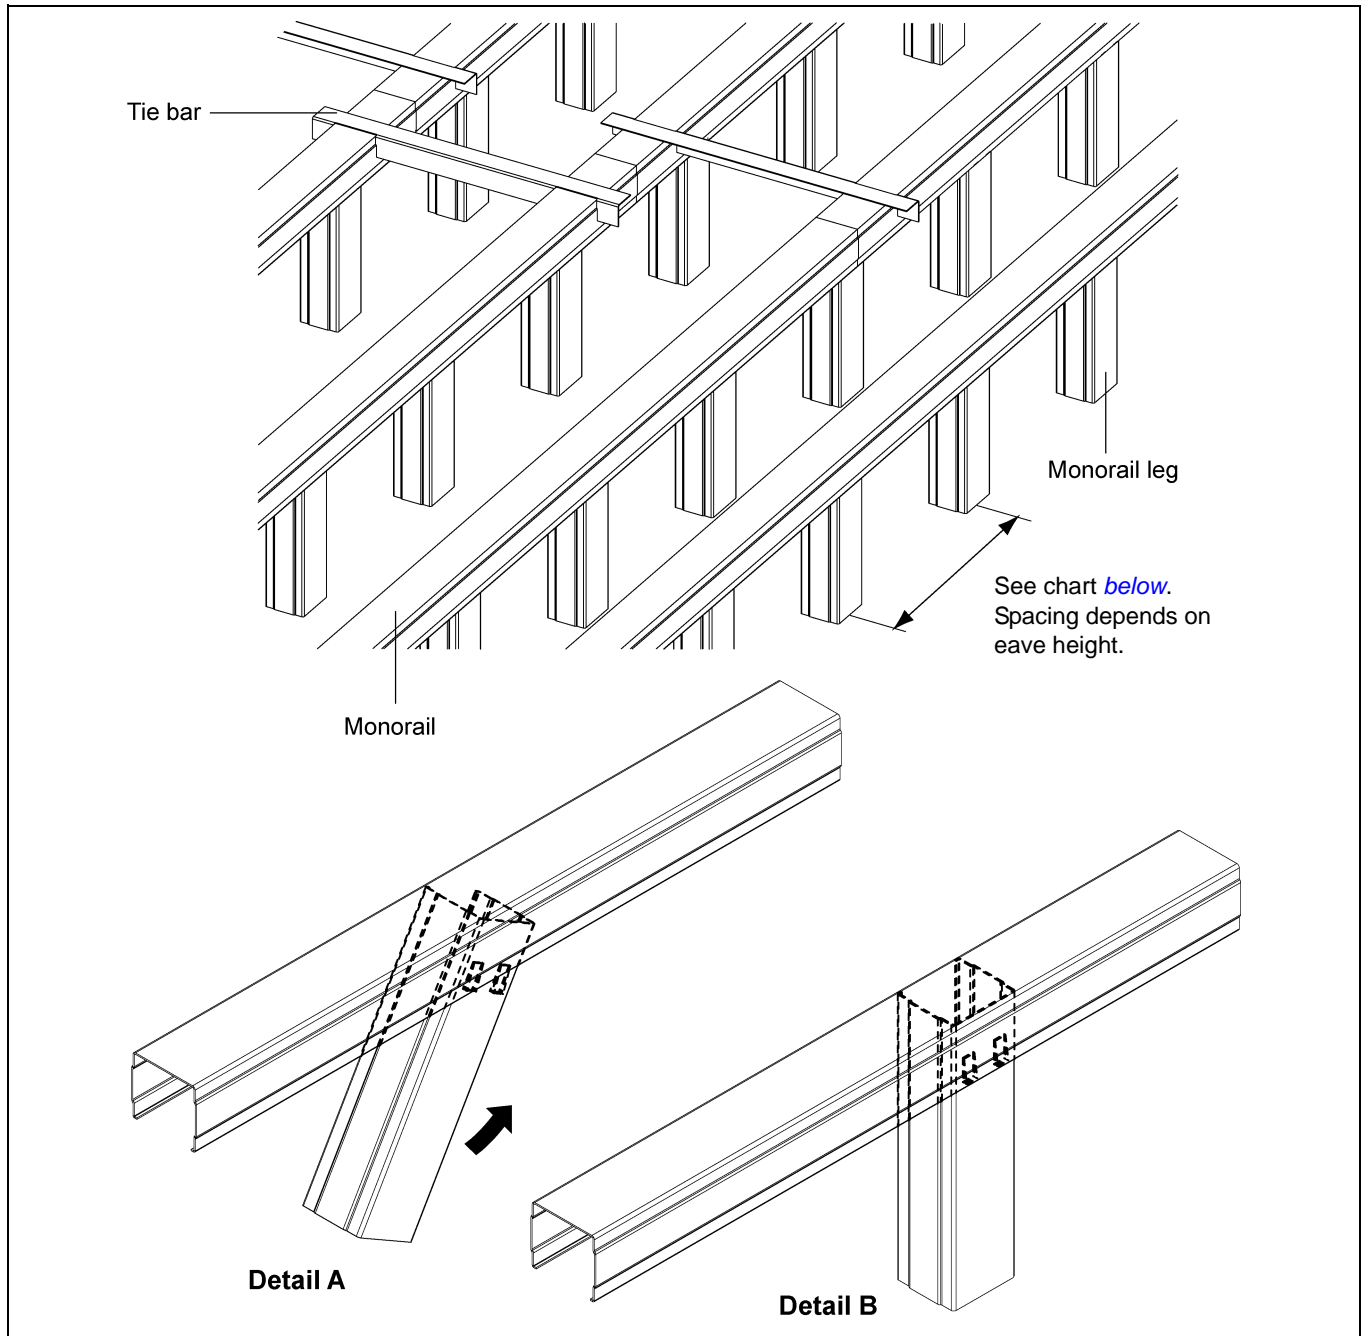

Figure 4E Assembly Leg Rail
3. The leg can then be pushed down into the rail until the tabs lock it into place. (*See Figure 4E.*)